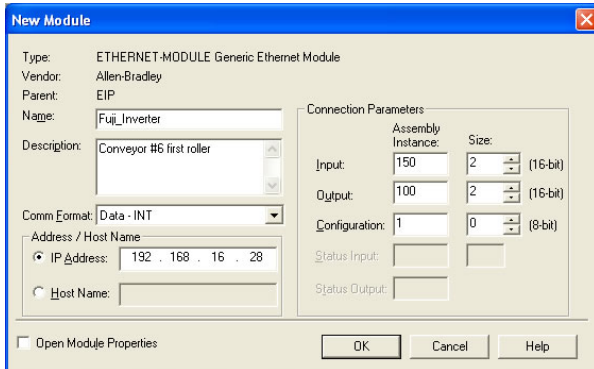

Figure 86: Interface Card Module Properties
- 4) The module properties dialog box will open (refer to Figure 86). Enter a Name and Description which will allow easy identification of the inverter on the network (the tags created in RSLogix 5000 will be derived from this Name). Because all inverter data is stored as 16-bit registers, change the “Comm Format” selection to “Data-INT”. Enter the IP address of the targeted interface card.